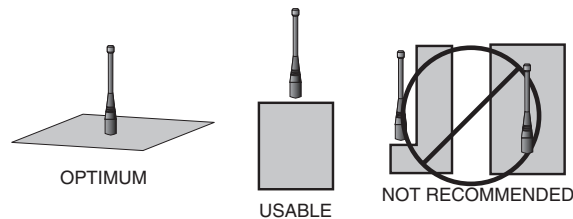

Figure 57: Ground Plane Orientation
2. Optimum performance is obtained from a $\frac{1}{4}$ - or $\frac{1}{2}$ -wave straight whip mounted at a right angle to the ground plane (Figure 57). In many cases, this isn't desirable for practical or ergonomic reasons, thus, an alternative antenna style such as a helical, loop or patch may be utilized and the corresponding sacrifice in performance accepted.